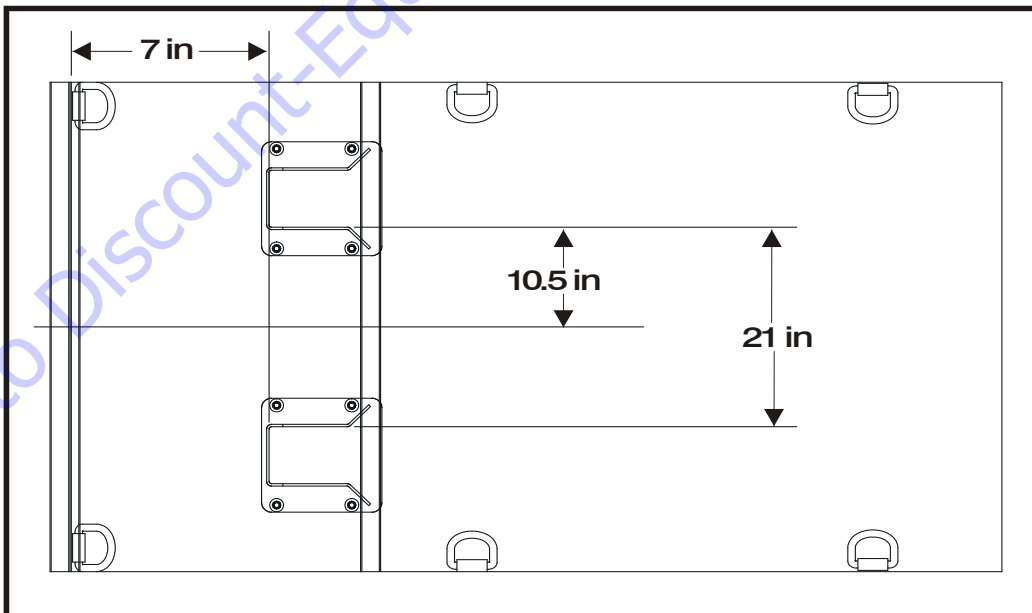

Figure 3-3. Chock Location
1. Position the chocks in the original mounting locations as specified in Figure 3-3., Chock Location.
2. Apply loctite #242 to the fasteners and install the chocks into position. (See Figure 3-3., Chock Location).